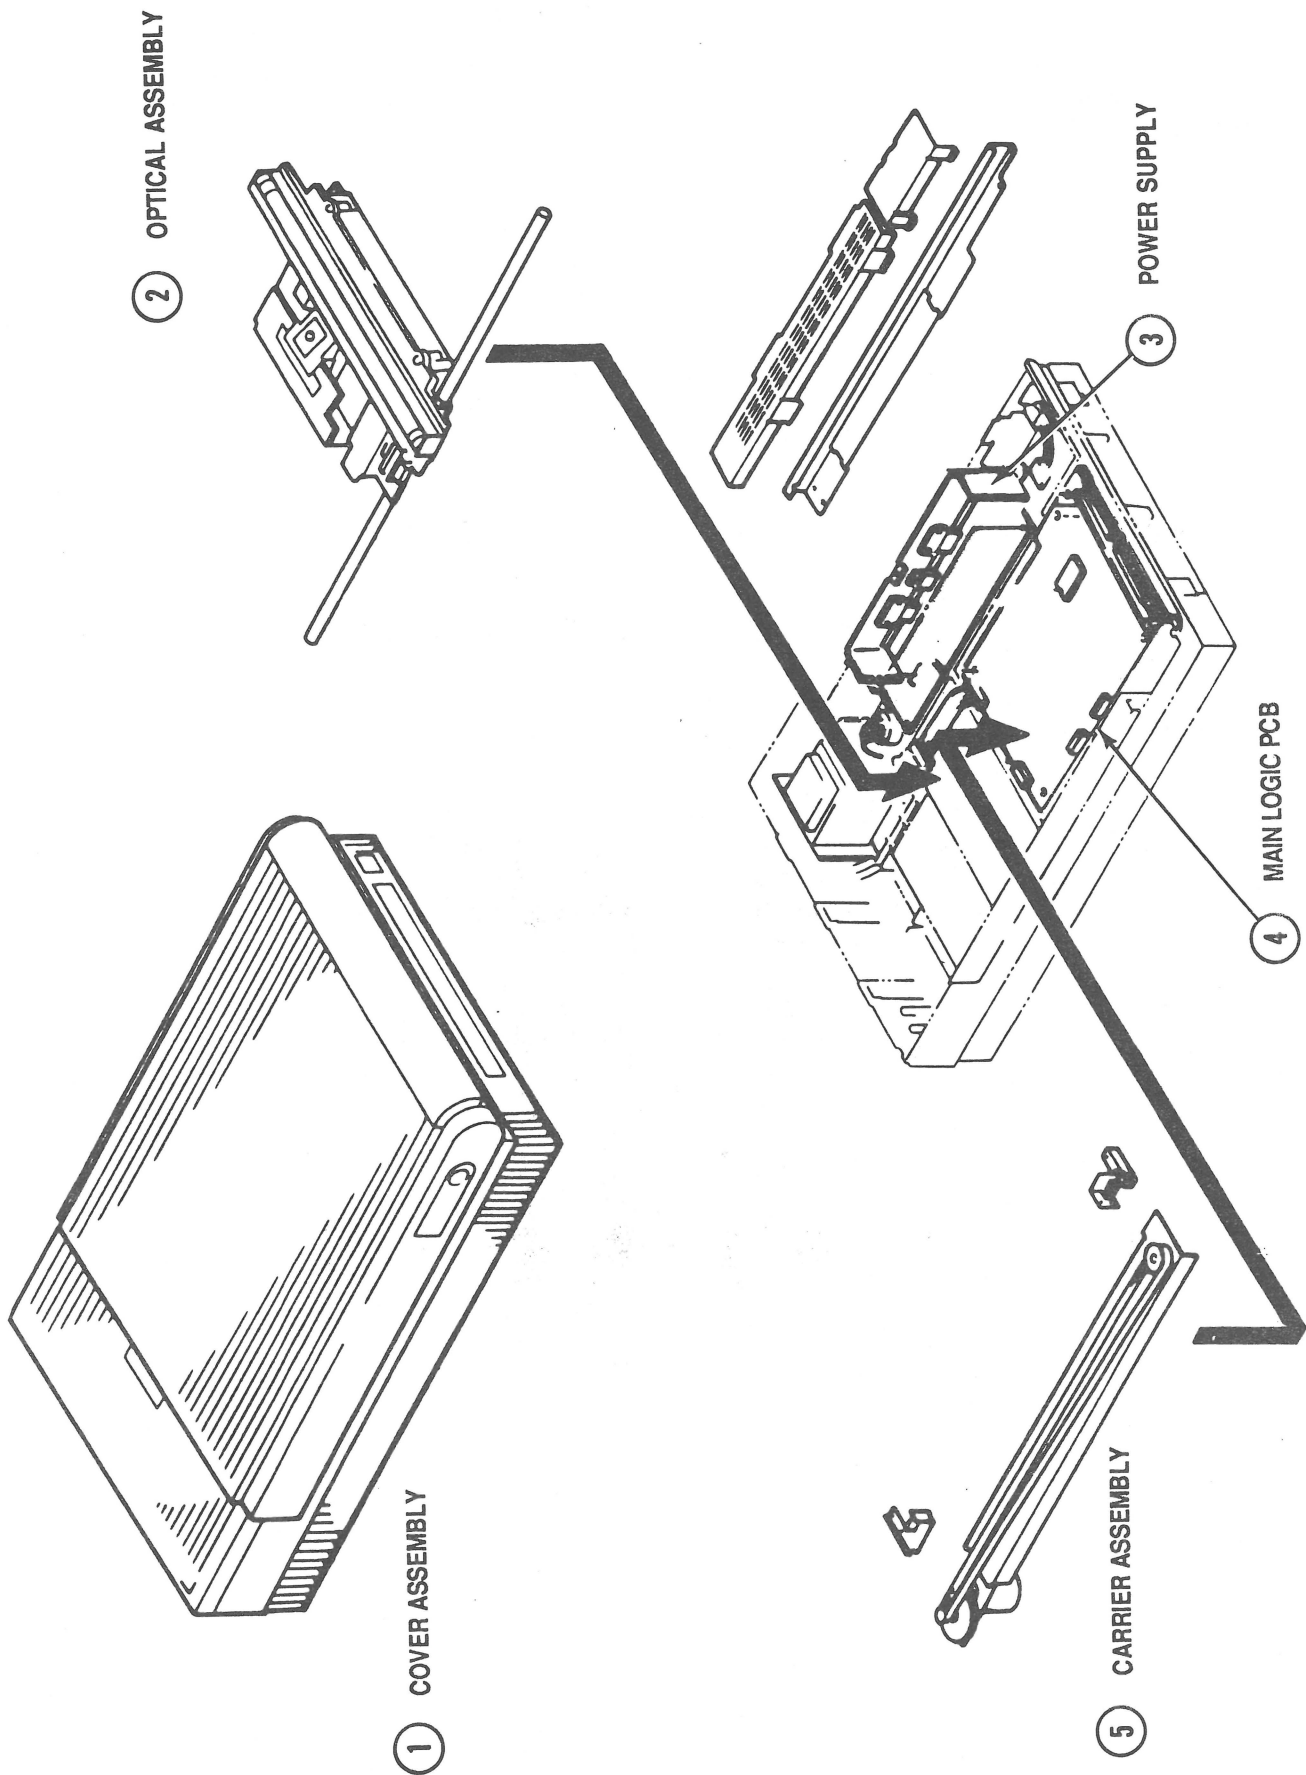

FIGURE 1
IPL.5	Parts Location (Figure 1)
□ PARTS LOCATION (Figure 1)